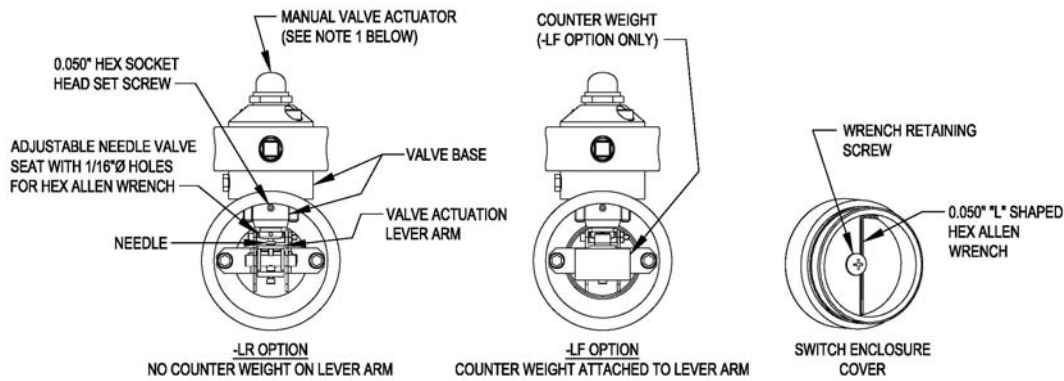

Figure 2
- Verify that the float is in the “down” position (liquid level below the switch centerline). The valve should be closed and the needle valve not bleeding any air/gas. See –LR OPTION in Figure 2.
- Verify that the float is in the “up” position (liquid level above the switch centerline). The valve should be closed and the needle valve not bleeding any air/gas. See –LF OPTION in Figure 2.
- Make sure the Switch Float is in the “Valve Closed” position. On the KPFS-LR model, the Switch Float will need to be in the down position. On the KPFS-LF model, the Switch Float will need to be in the up position. You will know which model you have by the model number on the Switch Enclosure Cover name tag. In addition to this, the KPFS-LF has a counter weight attached to the Lever Arm and the KPFS-LR does not. See illustrations in Figure 2.